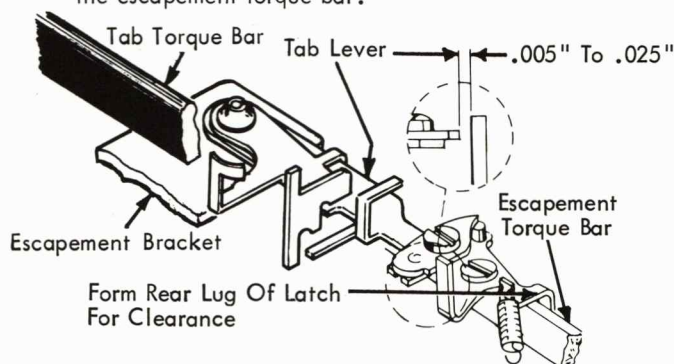

FIGURE 166. Interlock
8. Carrier Return Tab Interlock (Fig. 166) - With the carrier return clutch latch (in a carrier return operation) the upright lug of the tab latch should clear the end of the tab lever pawl by .005" - .025". The rear lug of the tab latch should be formed forward or back to obtain this condition.